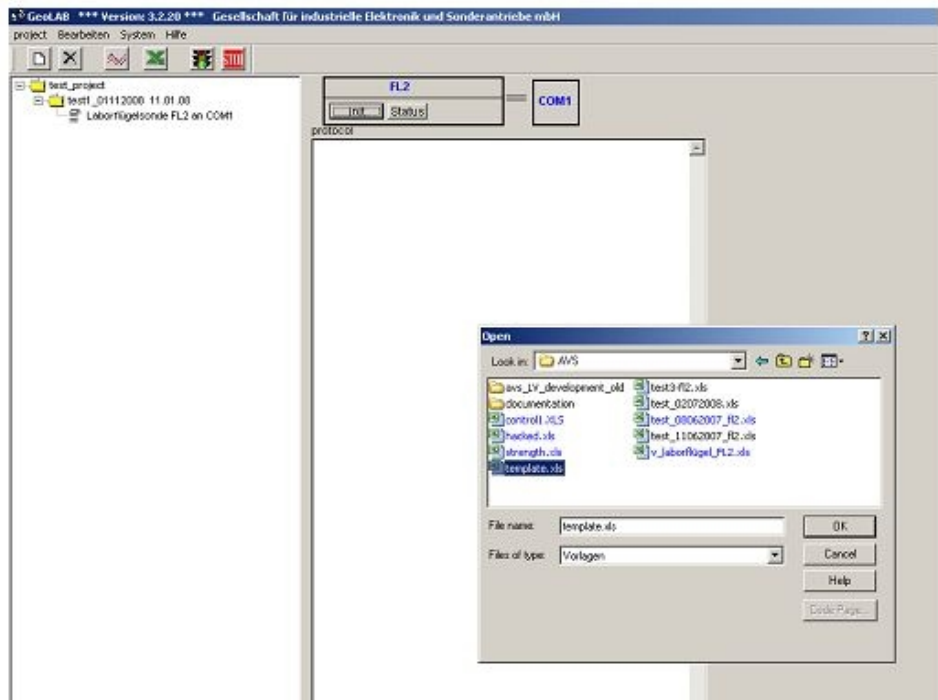
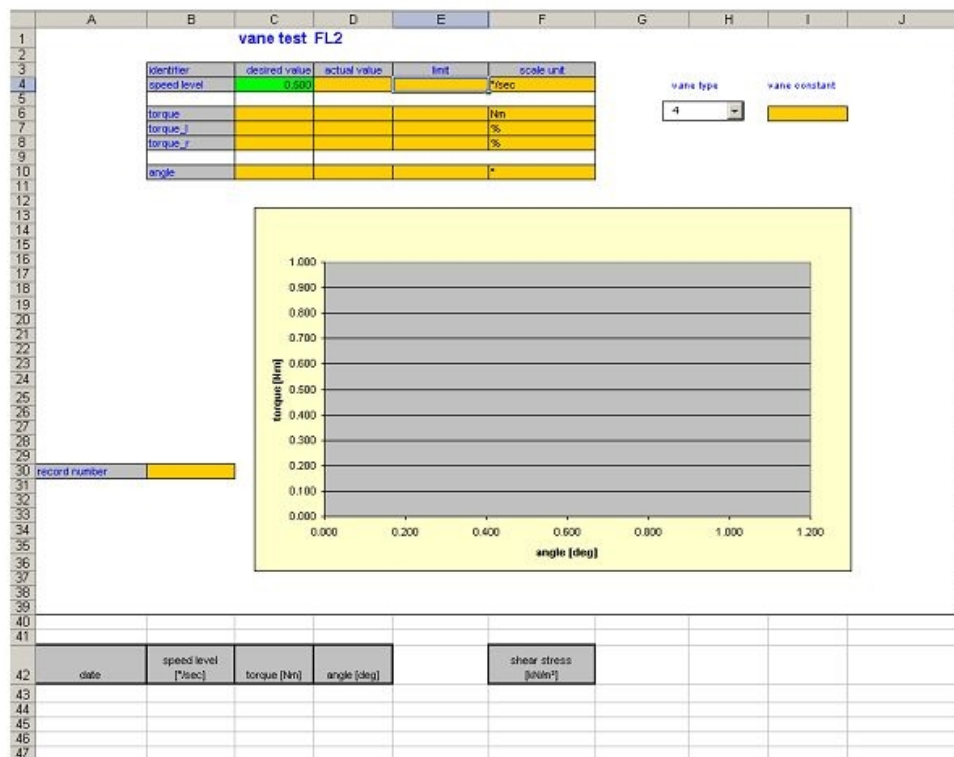

Figure 8. Selecting Giesa Main Control Template.
Figure 9. Giesa Excel Main Control Template.
4. From within GeoLAB, select the Excel icon to open the template for acquiring data (e.g., Template_Expedition_317.xls; see Figure 8, Figure 9); enable macros if asked. Do not rename or move the template file, which will be used the entire expedition.